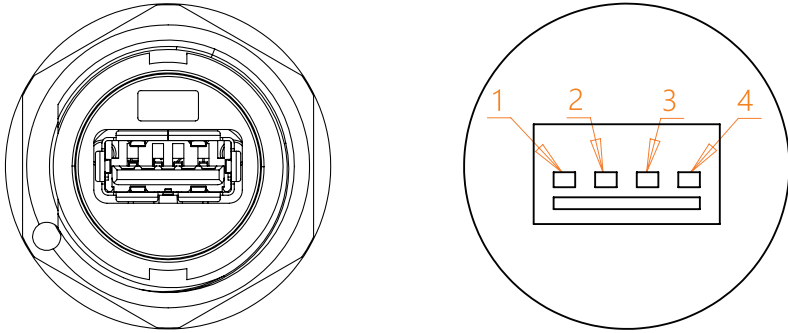

Figure 5-5 - RS485 pins
2. The detail of the USB RS 485 as shown in Figure 5-5;